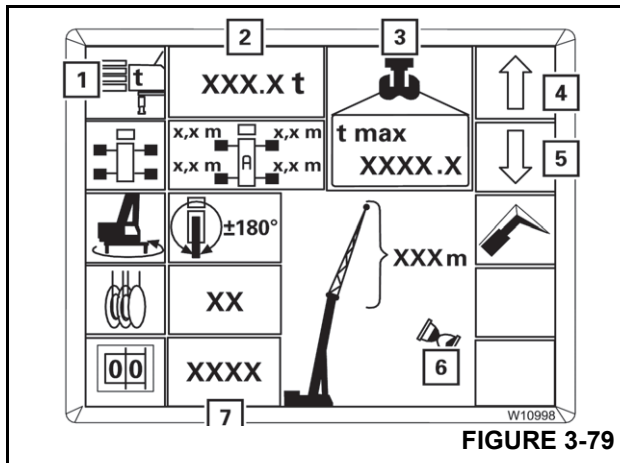

FIGURE 3-79
The following example is for selecting the values for the counterweight, symbol (1) (Figure 3-79) green.